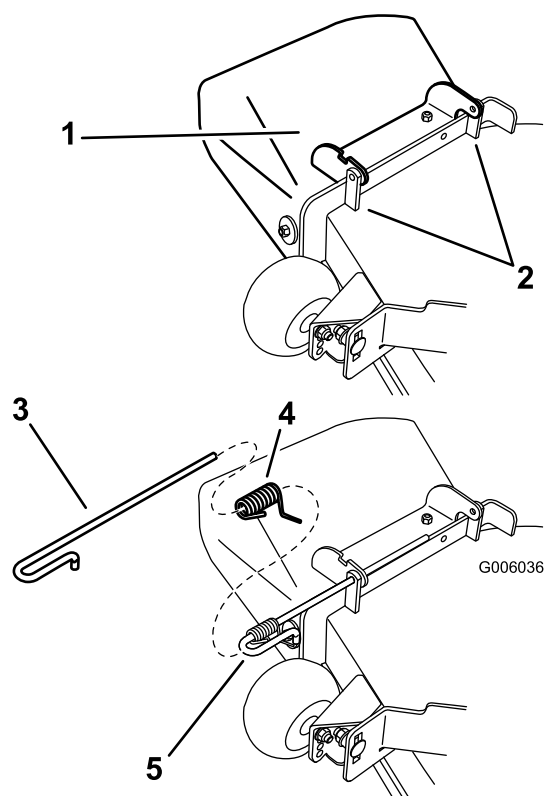

Figure 64
brackets, spring, and discharge deflector (Figure 64).
- Position the new discharge deflector assembly with the bracket ends between the welded brackets on the deck as shown in Figure 64.